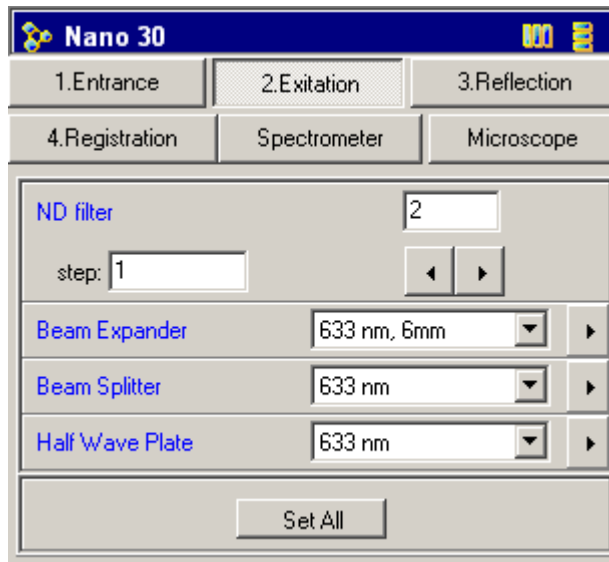

Fig. 10-27. **2. Excitation** tab of the **Nano 30** dialog
4. Switch to the **2. Excitation** tab (see Fig. 10-27) by clicking the corresponding title.